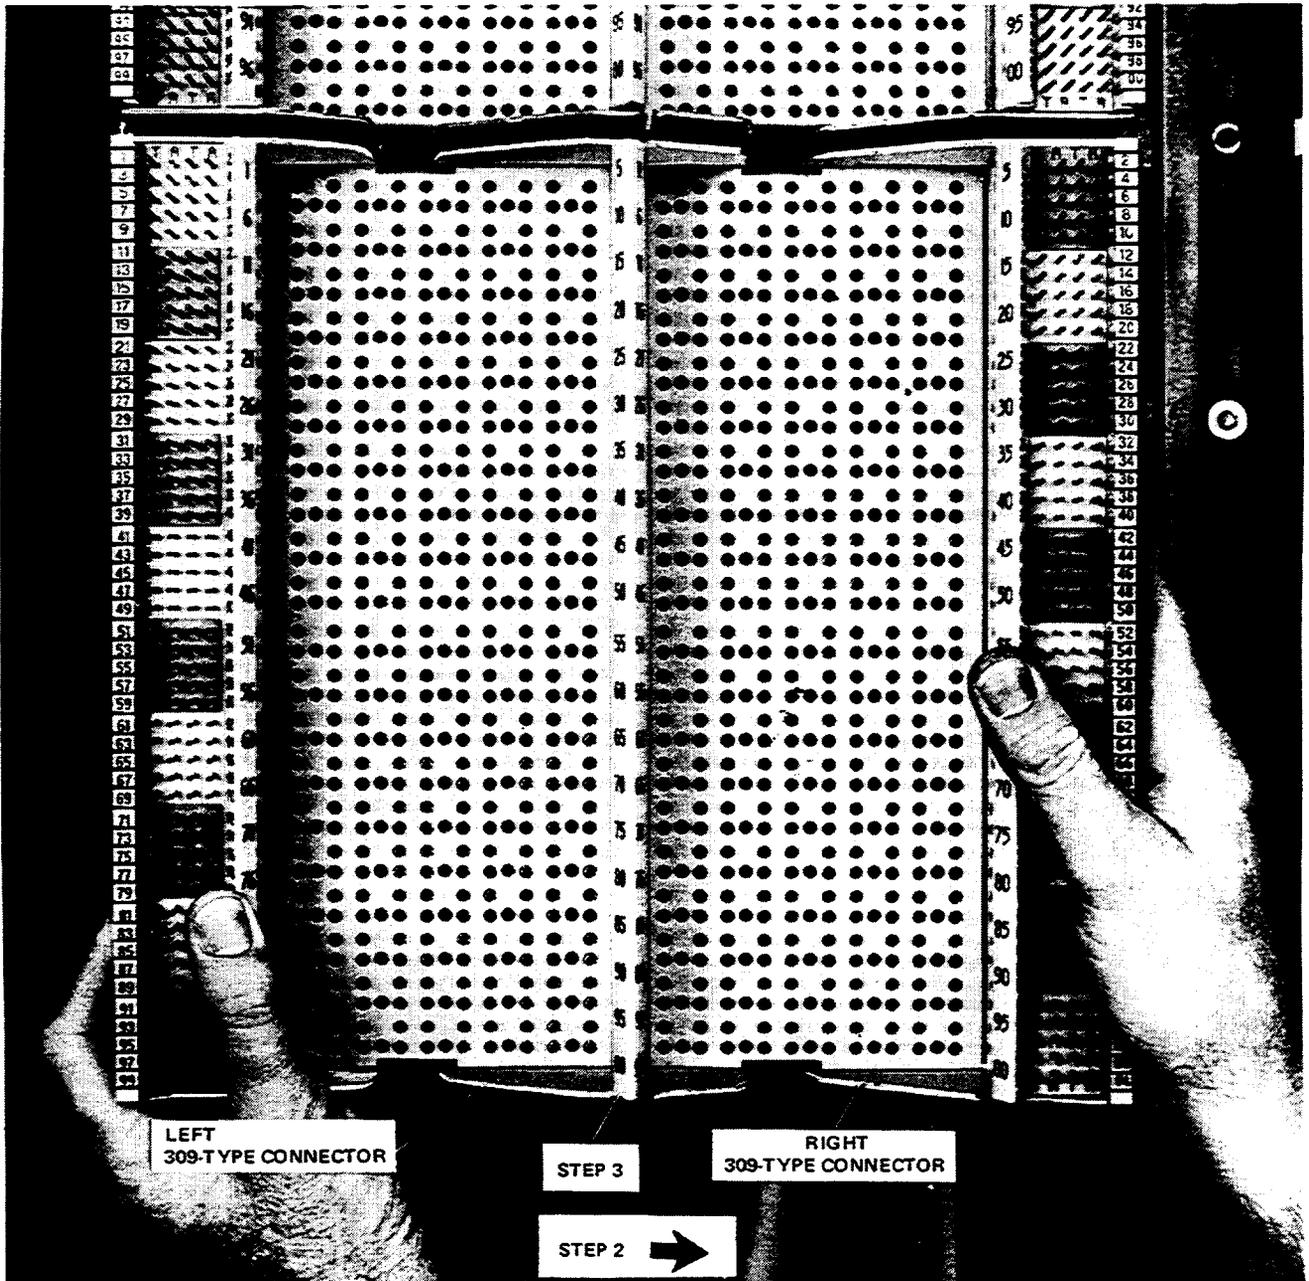

Figure 11—Positioning Right-Side of 309-Type Connector
- (1) See Figure 11 for numbers that correspond to the following steps.
- (2) Route the stub cable through the cable entrance facility. Leave enough slack in the stub at the